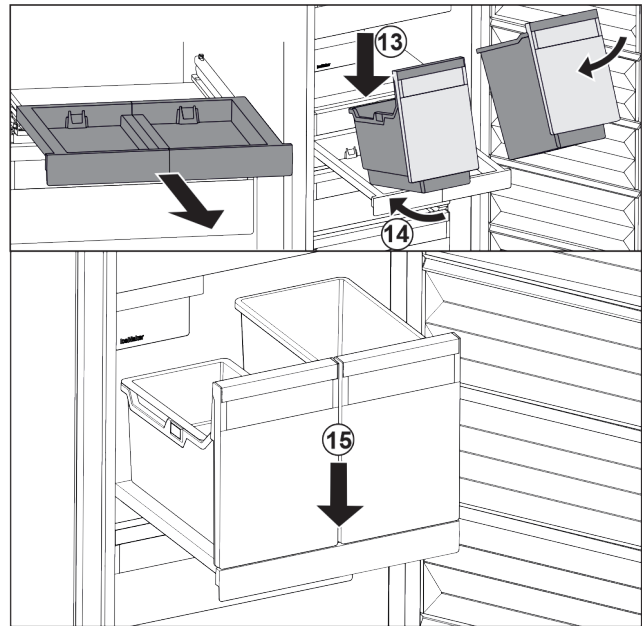

Fig. 175
- ▶ Place the container at an angle on the pull-out board. Fig. 175 (13)
- ▶ Slide the container to the back at an angle. Fig. 175 (14)
- ▶ Place container in the front. Fig. 175 (15)